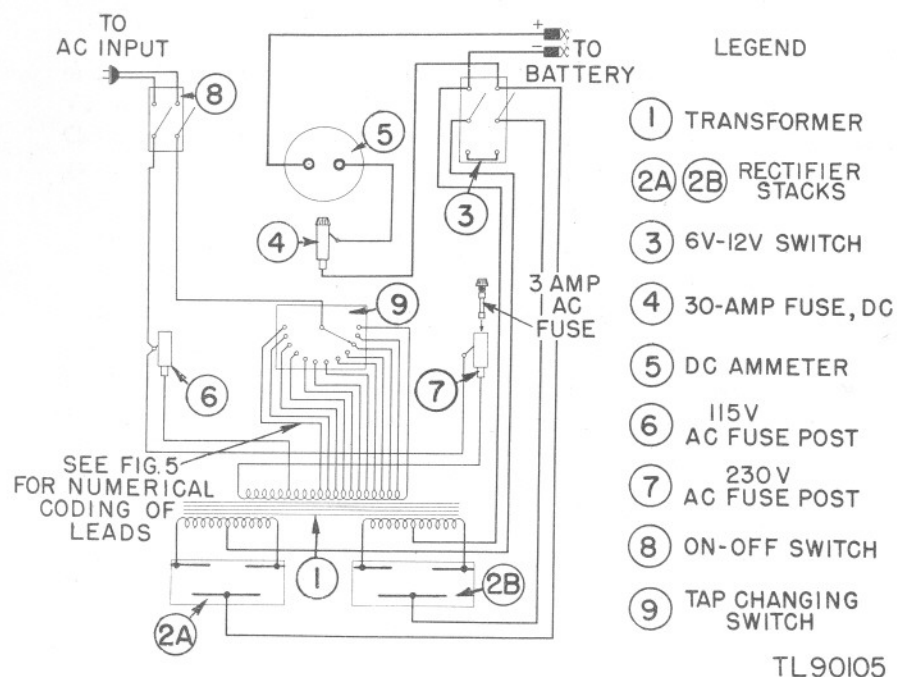
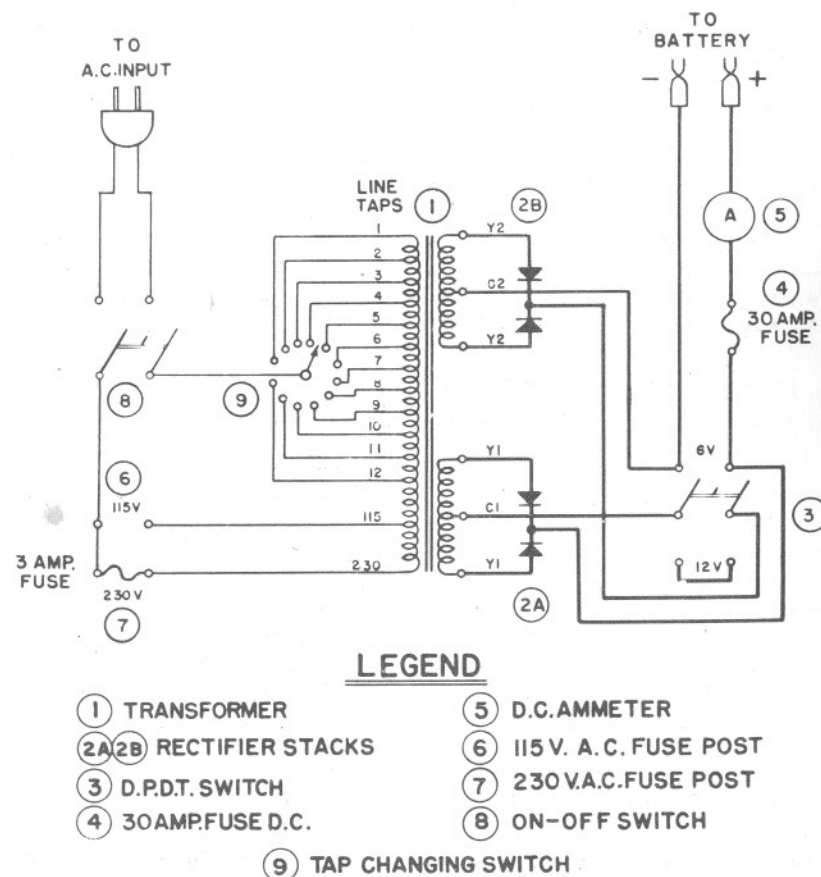

Figure 4 - Rectifier RA-83-A - Wiring Diagram
Figure 5 - Rectifier RA-83-A - Schematic Diagram
10. CIRCUIT.—Figure 5 is a schematic diagram of RECTIFIER RA-83-A. A complete wiring diagram showing the various components in physical relation to each other is given in Figure 4. The functions of the parts are discussed in the following paragraphs.
a. Circuit. One of the two rectifier stacks is connected as shown in Figs. 2, 4 and 5 to one of the two transformer secondary windings to form a full wave rectifier circuit. The other rectifier stack is similarly connected to the other transformer secondary winding. Thus, there are provided two independent 6-volt D.C. output circuits which are connected in parallel by the 6V-12V switch (see Figs. 4 and 5) for charging 6-volt batteries, and in series for charging 12-volt batteries. The total pulsating D.C. output current is connected to the lead, through fuse, D.C. ammeter and cord and battery clips, as shown in Figs. 4 and 5.
(a) **PROCEDURE:** Make a voltage check of the circuit starting at the A.C. input and working toward the output. Normal voltages at different load currents are given in paragraph 16. The wiring diagram (Fig. 4) will be found helpful in tracing circuits and finding connections.